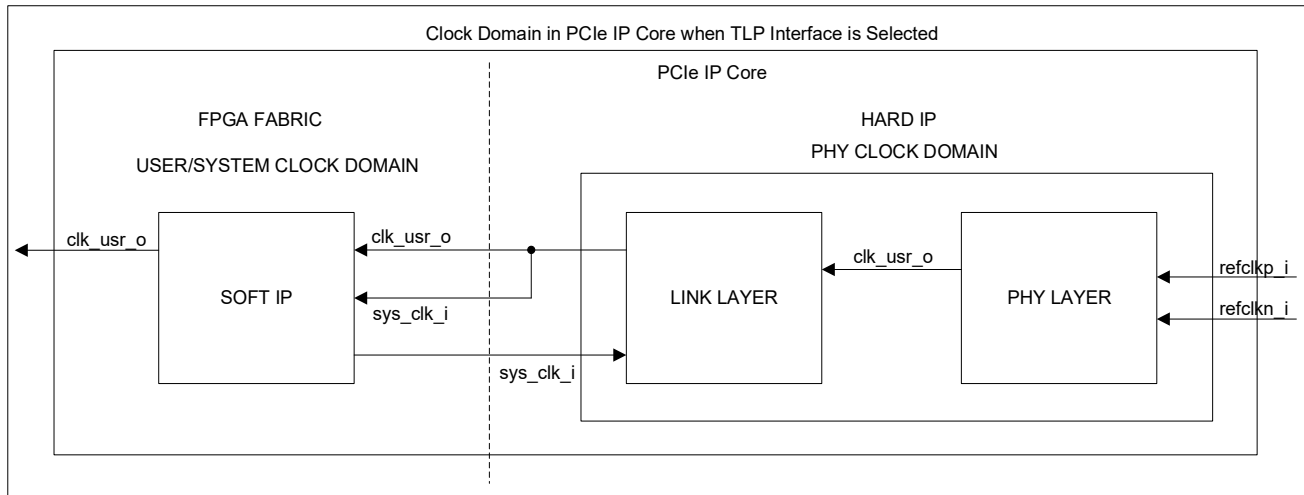

Figure 2.3. PCIe IP Clock Domain Block Diagram for TLP Interface
The PCIe x4 IP includes the following clock domains. The *sys_clk_i* and *clk_usr_div2_i* signals are generated during the PLL IP instantiation. For the TLP interface, you can connect *clk_usr_o* back to the *sys_clk_i*, as shown in Figure 2.3.
- For the TLP interface variants, you can choose to connect *clk_usr_o* back to the *sys_clk_i* as shown in Figure 2.3.